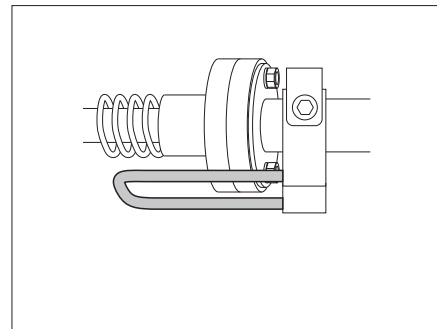

Fig. 146 Locking lever in the secured position
- ▶ Before using the bed check whether the locking lever is located in the secured position (Fig. 146).
- Set the locking lever to the secured position (Fig. 146).